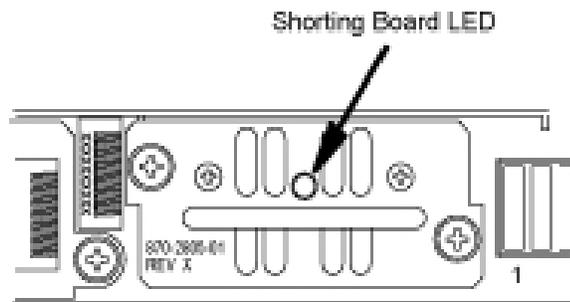

Figure 2: Shorting Board Faceplate, Normal Mode
2. Locate two screws securing the Shorting Board in its slot (see Figure 2: Shorting Board Faceplate, Normal Mode). Note the orientation of the Shorting Board LED. Turn the screws at each corner of the board to the left until they disengage.